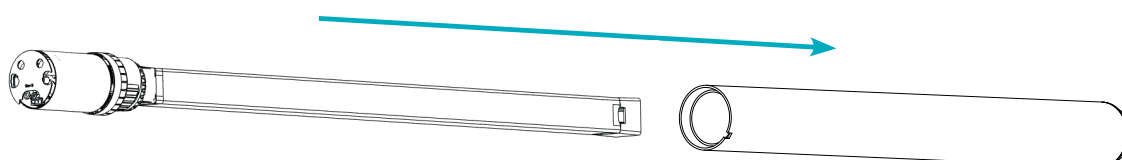

Fig. 4: Inserting the Actuator into the Height-Adjustable Column
3. Insert the Actuator into the Height-Adjustable Column (Fig. 4)